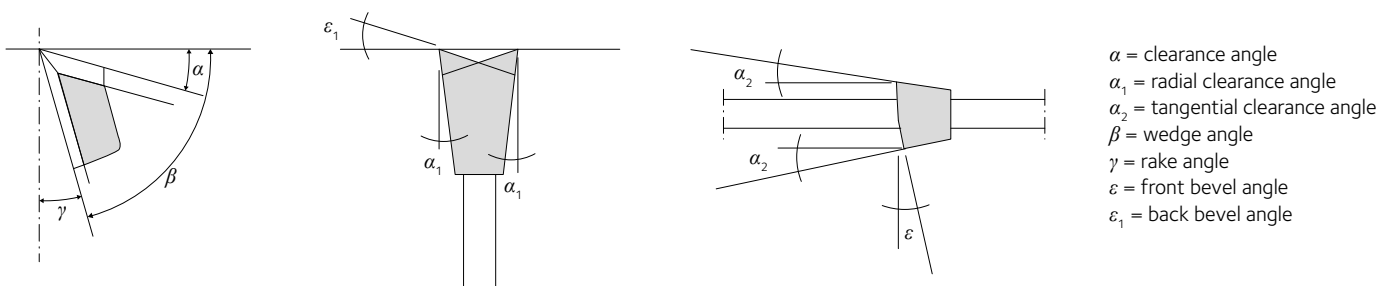

Figure 3.5 Definition of a sawtooth's cutting angles. The example shows a tooth with a soldered tip
- Radial clearance angle, *see fig. 3.5*